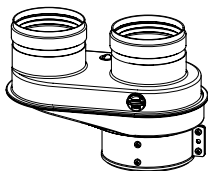

Figure 5.10
1. The appliance is set up for connection to a 60/100 coaxial air intake and flue gas exhaust ducting system. For split types of suction and exhaust, using the specified adapter (Figure 5.10). If the specified adapter is used, the path of the flue gas exhaust and combustion air channels must be the same and must leave the installation room on the same wall at the minimum distance. If the flue duct is too short, you can extend it (Figure 5.11 and Figure 5.12). Check the flue duct and see if there is any damage or leakage every year.